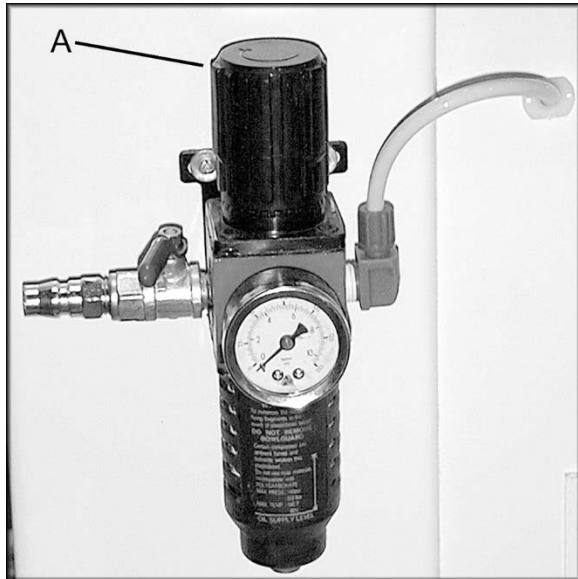

Figure 2
Connect the machine to an air hose. The air pressure that flows into the filter can be adjusted with the knob (A), Figure 2. Normal working air pressure should be set at 75 psi, which can be read on the pressure gauge.